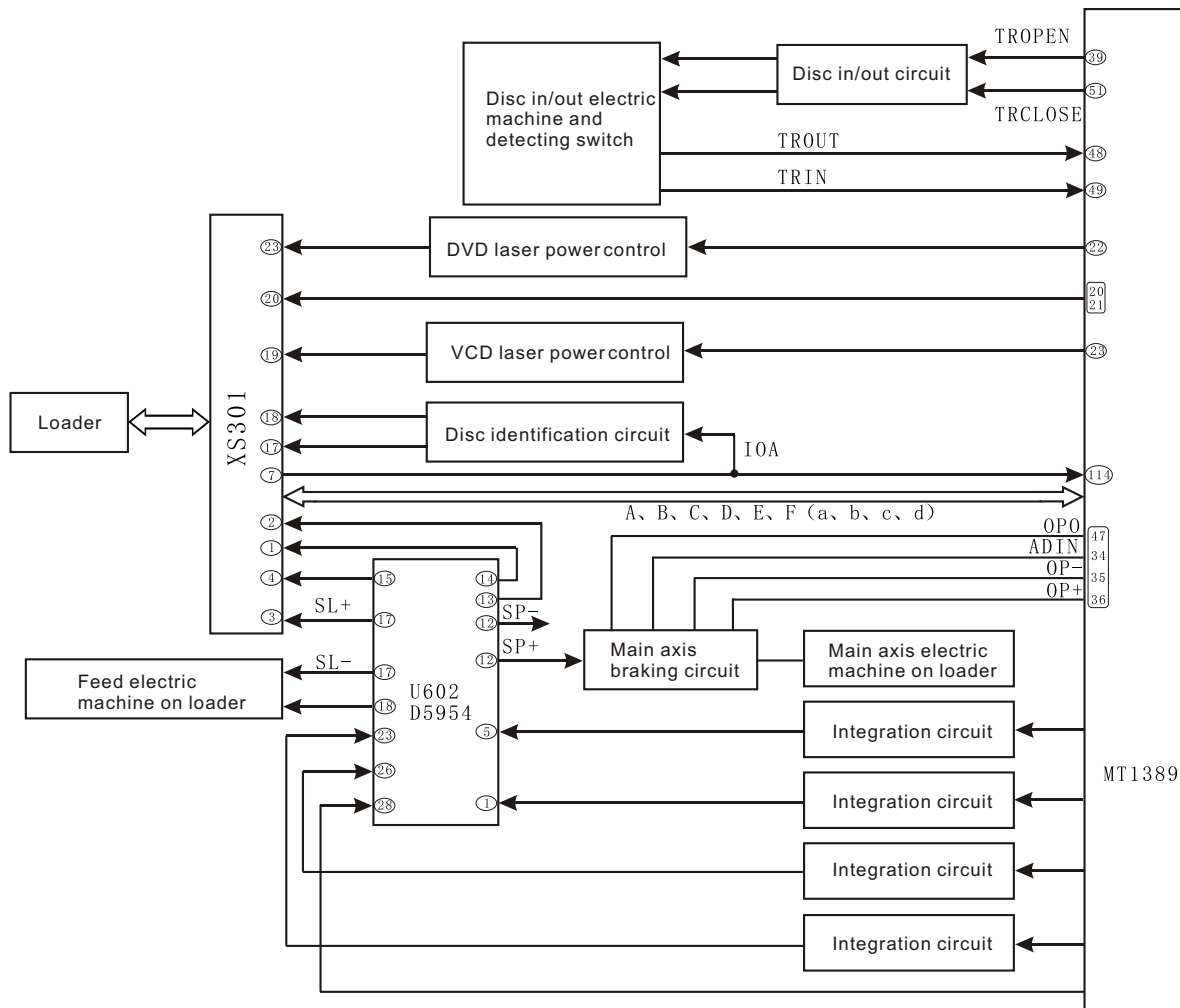

Figure 3.2.9.1 Servocircuit diagram
2、The circuit functional block diagram is shown as figure 3.2.9.1.